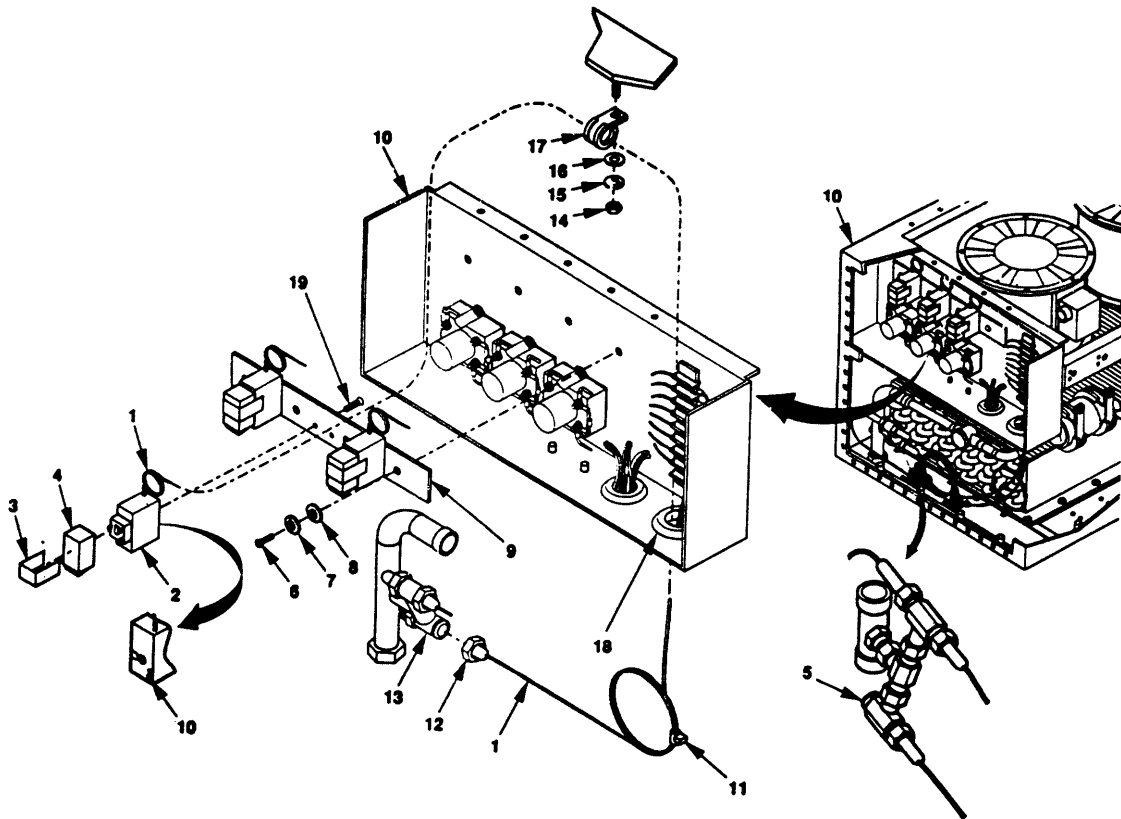

Figure 5-5. Pressure Switch Maintenance.
- (1) Check capillary tube (Figure 5-5, 1) and low pressure fan switch S3 (2) for leaks, cracks, or break. . Ensure tape on capillary tube (1) is not damaged.